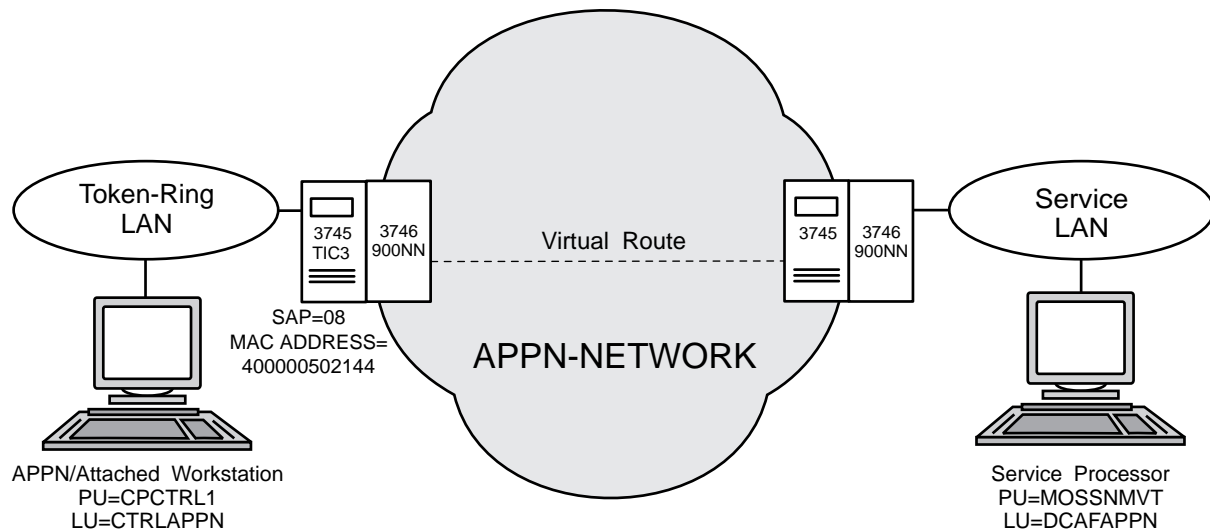

Figure 15-1. APPN Configuration
- Configure a DCAF session for controlling the service processor (see Figure 15-1 above).